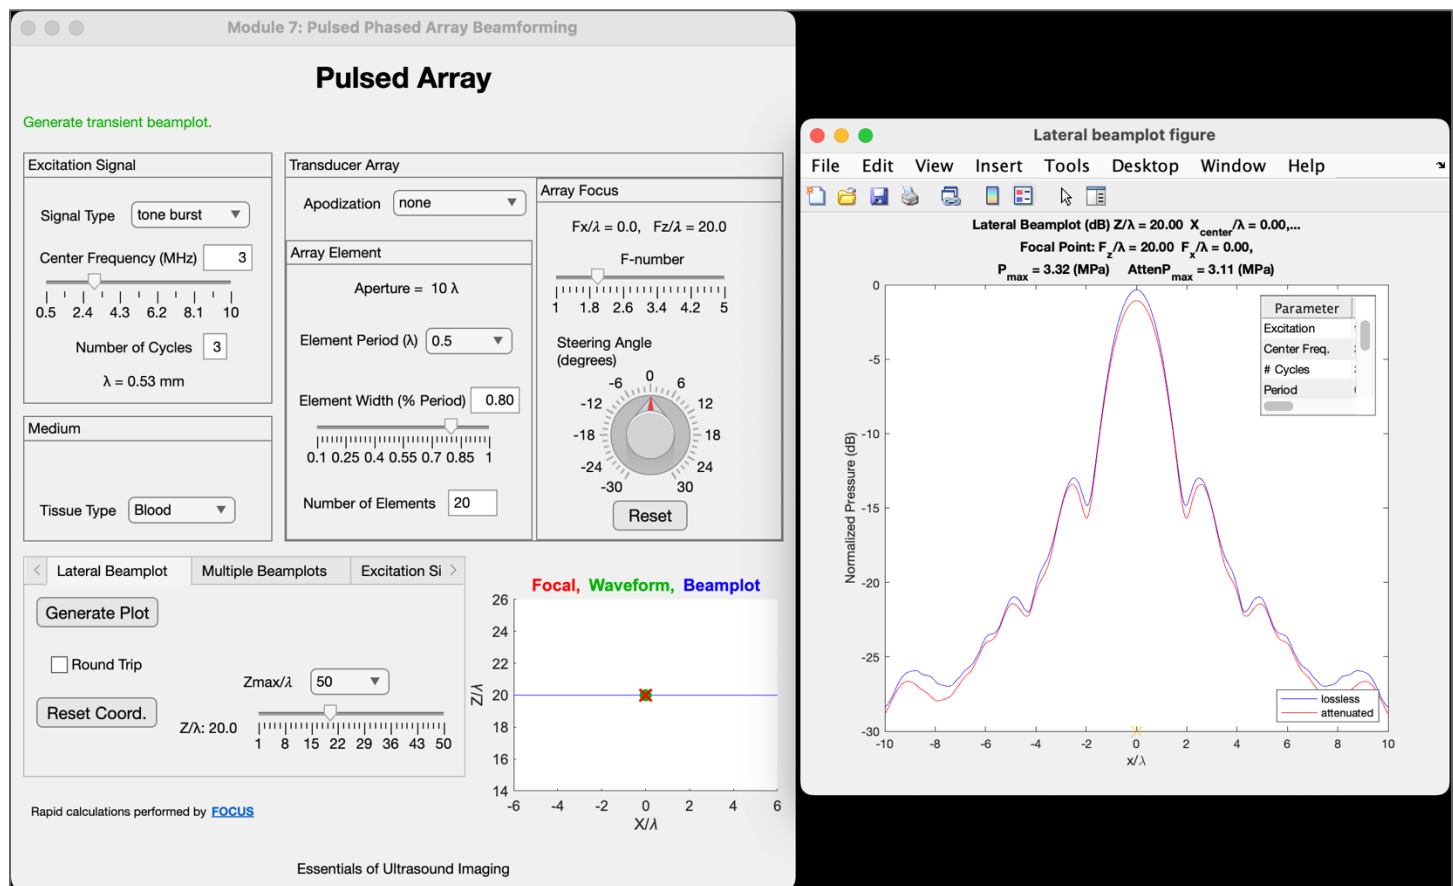

Figure 45: Pulsed Array Simulator GUI: Lateral Beamplot Example
- The **Lateral Beamplot** tab has many of the same options as the Pressure Waveform tab: the  $Z/\lambda$  slider for the position of the beamplot, and a Round-Trip check box with the default position reverting to the selected Focal length as indicated by a blue line in the position plot to the right. By pressing the Generate Plot button, a popup window displays two beam plots: one plot for a lossless medium and the other plot for a selected absorbing medium. In addition, the settings for the plot are also shown in the title and scrollable plot inset. As before, obtain additional quantitative information for both beam plots and waveforms using the Data Tips tool. See Figure 45.